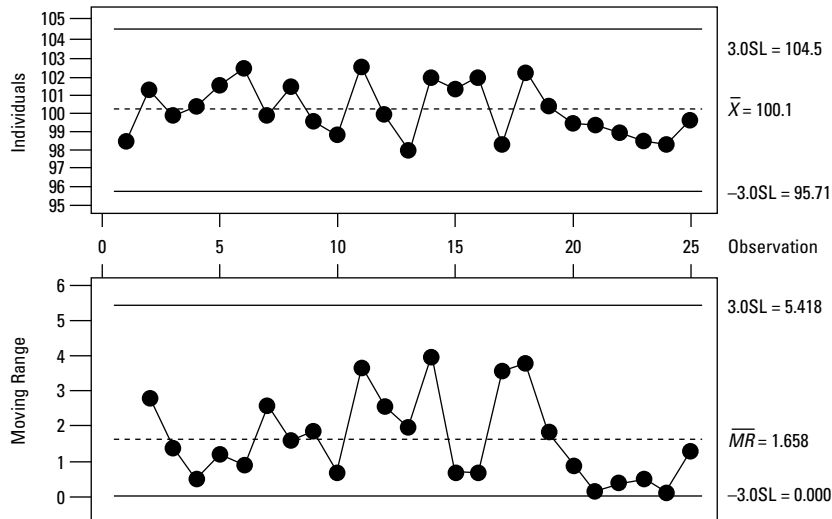

Figure 10-8: Individuals moving range chart ($I - MR$ chart).
The individuals (I) and moving range (MR) control chart is used when you have continuous data and each subgroup consists of only a single, individual measurement. These charts are very simple to prepare and use. Figure 10-8 shows the individuals chart, where the individual measurement values are plotted, with the centerline being the average of the individual measurements.
The $I - MR$ chart in Figure 10-8 shows the individual measurements in the upper chart of the pair and a moving range in the lower half, which allows you to examine the process location and variation width at the same time.